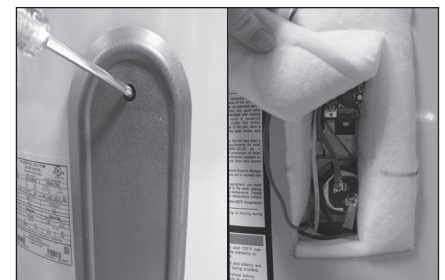

Figure 47 - Element Access Panel/ECO Compartment.
- 2** Remove the upper access panel on the water heater and carefully fold back the insulation and plastic element/ECO cover (Figure 47).